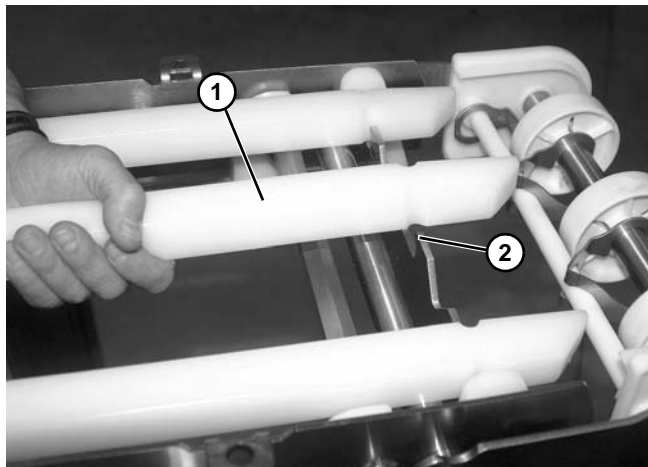

Figure 39
2. Remove worn wear strips (Figure 39, item 1) from the frame notches (Figure 39, item 2).